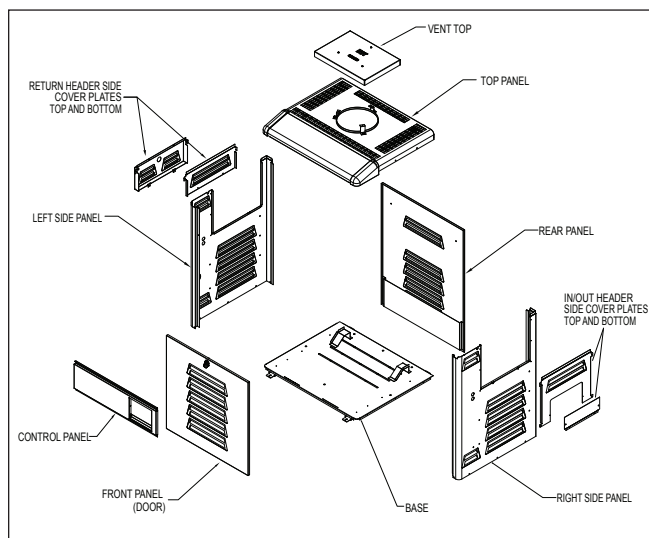

Figure 10. Legacy Panel Identification
3. Remove the I/O header side cover plates, top and bottom. See Figure 10.
4. Remove the return header side cover plates, top and bottom. See Figure 10.